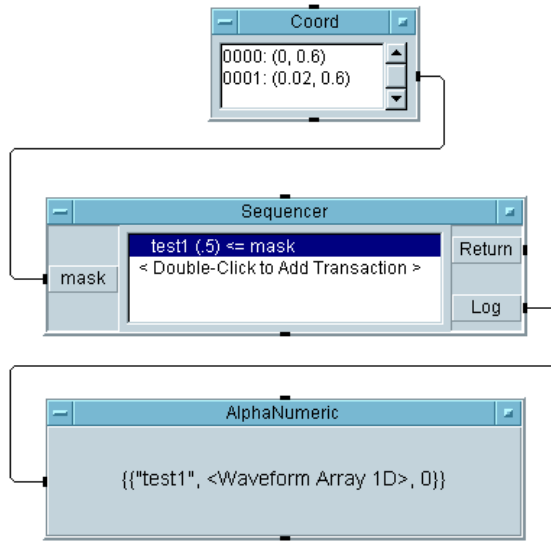

Figure 9-13. Comparing a Waveform to a Mask
8. Save the program as `seqdat3` and run it. It should look like Figure 9-13.